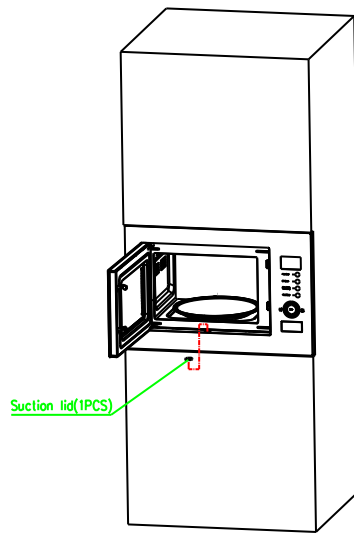

Fig.6
f) Install the outline border in screw hole, as shown in Fig 6.